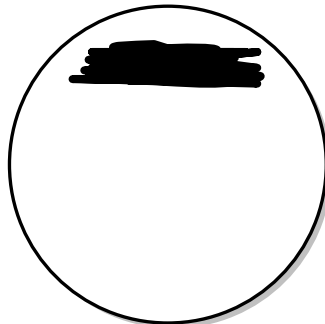

Fig. 6
2. Starting with non-selective media (i.e. blood and chocolate agar), inoculate each plate in the first quadrant by rolling the swab so that its entire surface comes into contact with the plate. Inoculate the first quadrant of each plate (see Fig. 6 below).
1. Using a sterile swab, transfer material to plates by inoculating the first quadrant of each plate (see Fig. 6 above).
1. Using a sterile swab, transfer material to plates by inoculating the first quadrant of each plate (Fig. 6 above).